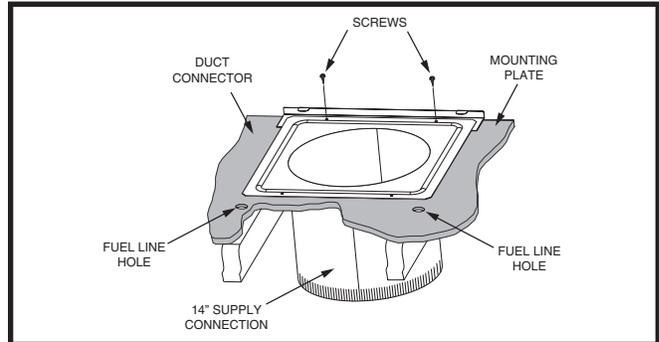

Figure 14. Round Duct Connector Installed
3. Install the mounting plate under the back side of the duct connector. See Figure 14 \(page 9\). **NOTE:** Align the screw holes in both components.